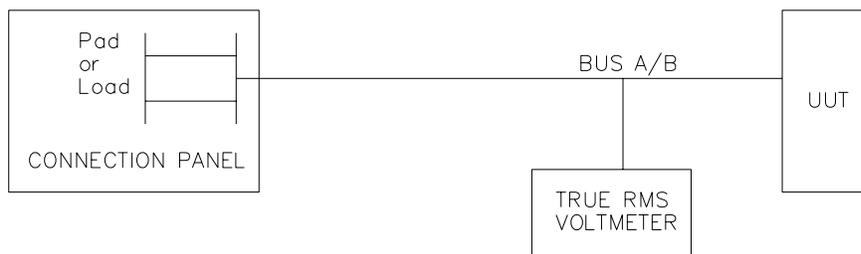
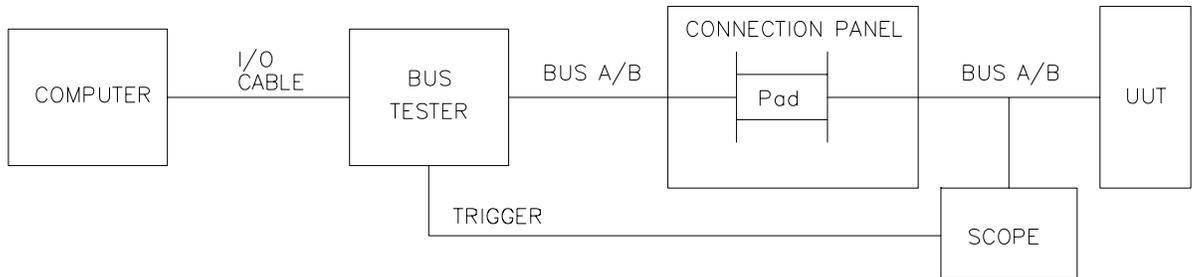

Figure 1. Output Noise Test Configuration
Figure 4. General Electrical Output Test Configuration
1. Use the test configuration in Figure 1 for transformer or direct coupled connections. Connect a cable from the UUT to the appropriate Pad or Load on the CONNECTION PANEL. Use the TC PAD or 70 OHM load for transformer coupling or the DC PAD or 35 OHM load for direct coupling. See Figure 4 of the RT Validation Test Plan for the Pad schematic.
1. Connect equipment as shown in Figure 4 for the selected bus to be tested (A or B). Note: Use the TC PAD for transformer coupling or the DC PAD for direct coupling. See Figure 1A of the RT Validation Test Plan for the Pad schematic.
9. Connect the oscilloscope back to the active bus (see Figure 4).